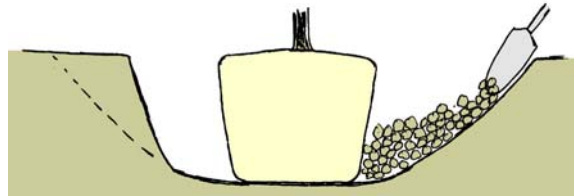

Figure 8. When dug with an auger, cut down the sides into the saucer shape during backfill process.
**When the planting hole is dug with an auger**, cut down the sides with a shovel to help eliminate the glazing and create the preferred sloping sides. An alternative is to roto-till a 12-24" inch ring of soil around the planting hole after planting. [Figure 8]